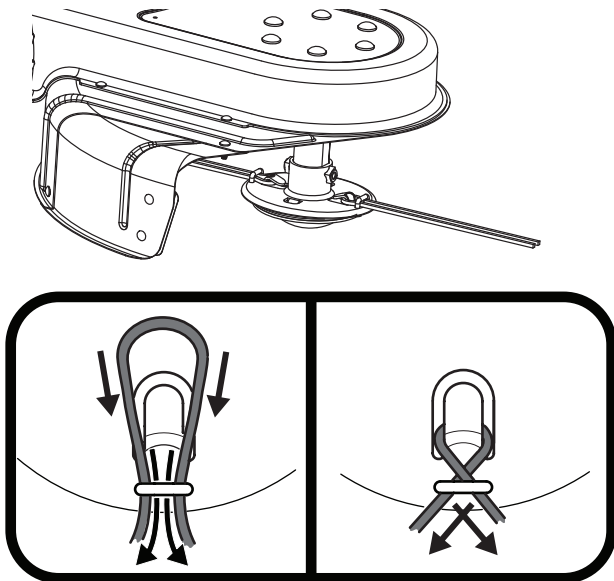

Figure 1-10
- Cross the line ends and pull each tightly to secure the trimmer line in place. See Figure 1-10.